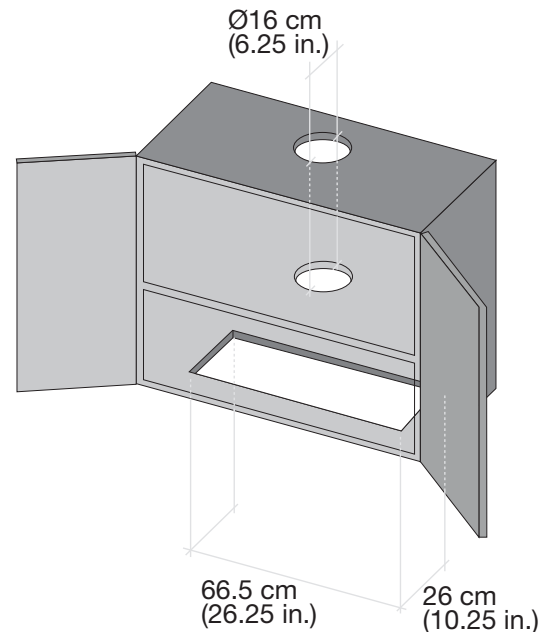

Figure 1
- Measure and cut an opening at the bottom of the cabinet to fit the motor box of the range hood. (See Figure 1)
- Measure and cut a hole in the top of cabinet to fit the duct tube. (See Figure 1)